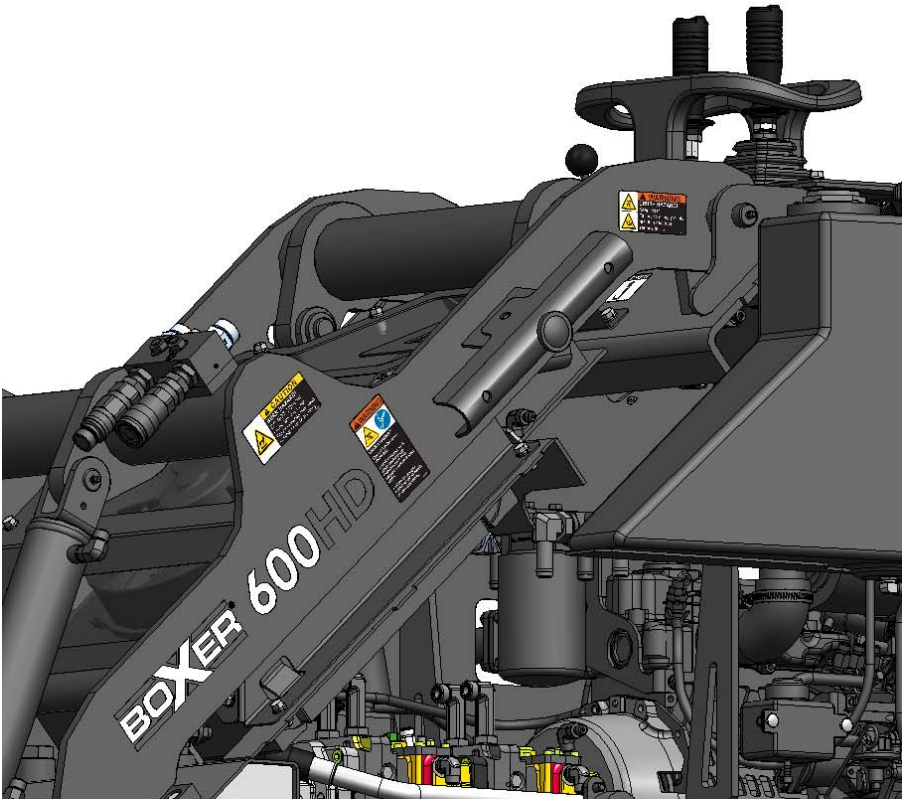

Figure 4-16 Hydraulic Oil Filter
- c. Start and run the engine for about 30 seconds and then shut the engine off. Using the hydraulic oil level dip stick (Item 1, Figure 4-16), check the hydraulic oil level. Add the appropriate hydraulic fluid as needed through the filler port (Item 2, Figure 4-16) on top of the hydraulic oil tank. Make sure that the hydraulic fluid is not above the upper mark when the machine is at operating temperatur